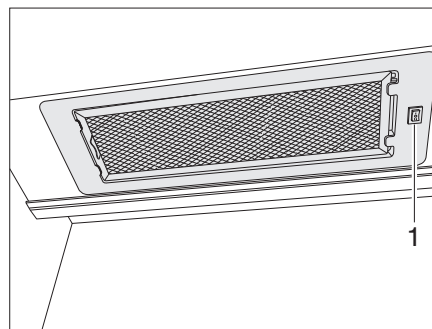

Fig. 142 Extractor hood
- Use the switch (Bild 142,1) to turn the extractor hood on and off.